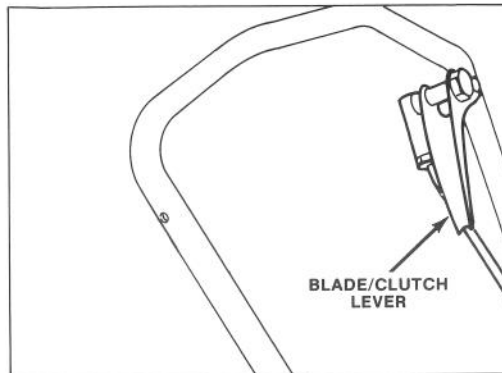
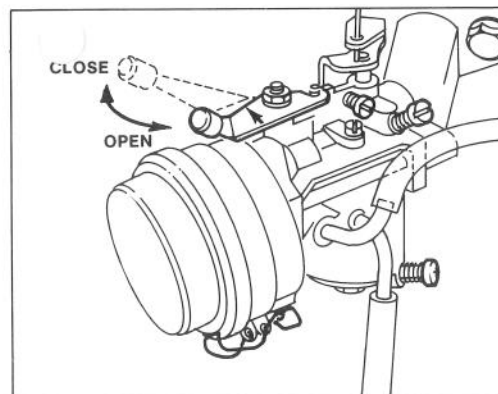
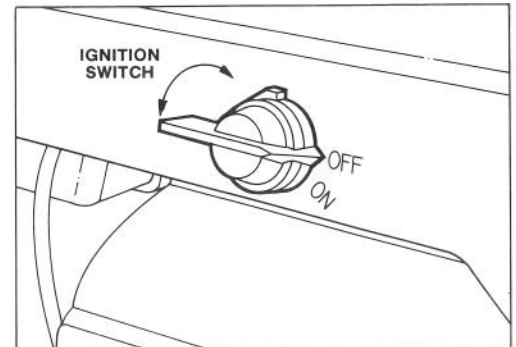
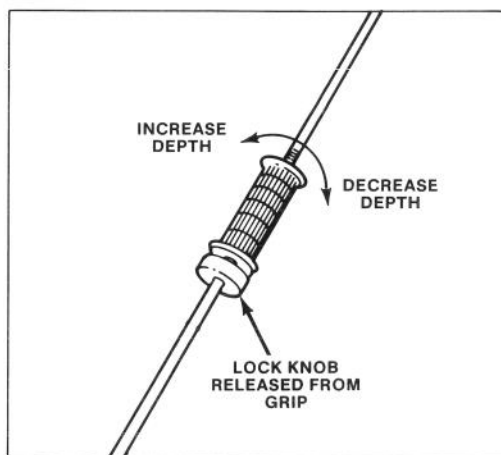

Figure 7
Figure 8
Figure 9
Figure 12
1. **CONTROLS** — Blade/clutch lever is on upper handle (Fig. 7), depth adjusting grip is at center of rod (Fig. 12) and ignition switch is at side of engine (Fig. 9).
2. **STARTING** — Push wire onto spark plug and assure blade control is disengaged. Push choke lever to left (Fig. 8). A warm engine will require little or no choking. Rotate switch to ON (Fig. 9). Place foot on rear wheel and pull recoil starter. When engine starts, gradually open choke by moving lever to right.
3. **EDGING** (Fig. 7) — Squeeze blade/clutch lever against handle to engage blade and move cutter to preset depth. Release blade/clutch lever to disengage blade and raise cutter head.
4. **STOPPING** — Release blade/clutch lever (Fig. 7). Rotate ignition switch to OFF (Fig. 9).
3. ADJUSTING DEPTH (Fig. 12) — Grasp lock knob and grip. Rotate grip counterclockwise until lock knob is free. Screw lock knob down rod so it is out of the way. Then rotate grip clockwise to increase depth and counterclockwise to decrease depth.